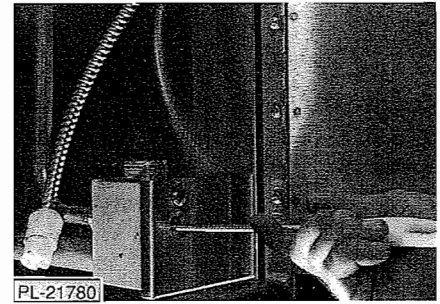

Fig. 25
6. Using the flexible cleaning rod supplied, clear any obstructions from the exhaust pipe (Fig. 25).